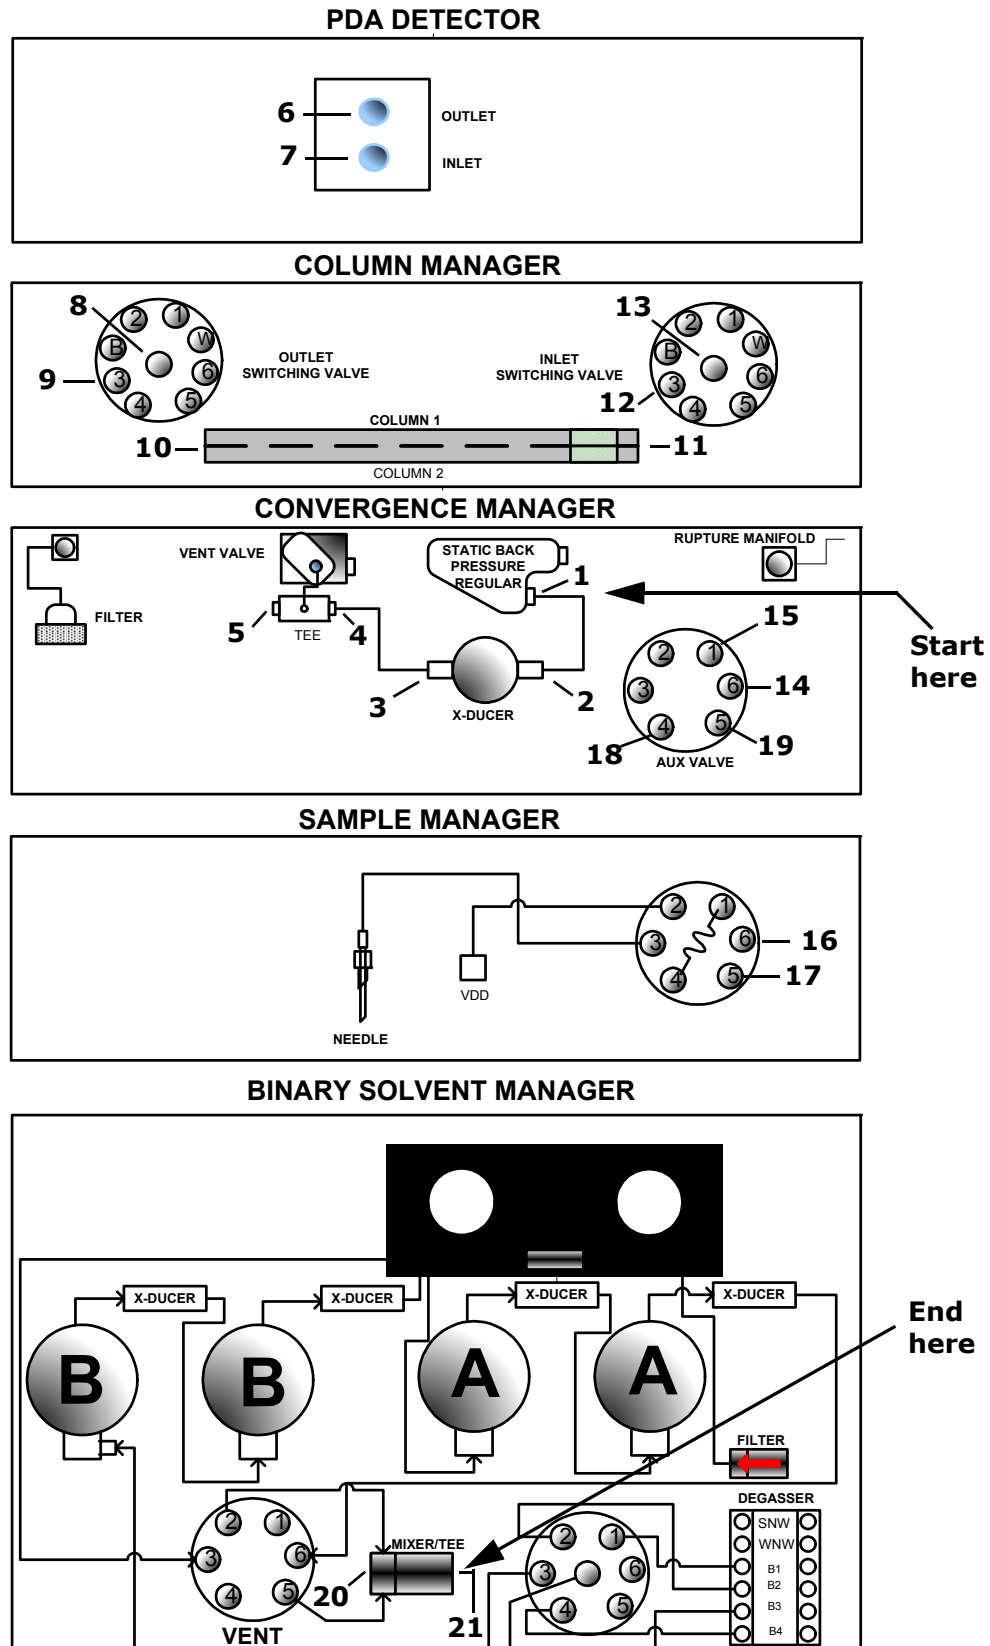

Figure 1 - Disconnecting fittings to isolate a blockage
- Disconnect fitting at the ABPR inlet (position 1 on Figure 1).
- If pressure on the B-side accumulator trace is above (>) 300 psi, disconnect fittings, proceeding upstream until the pressure drops below 300 psi. Proceed in the order indicated in Figure 1 and Table 2.